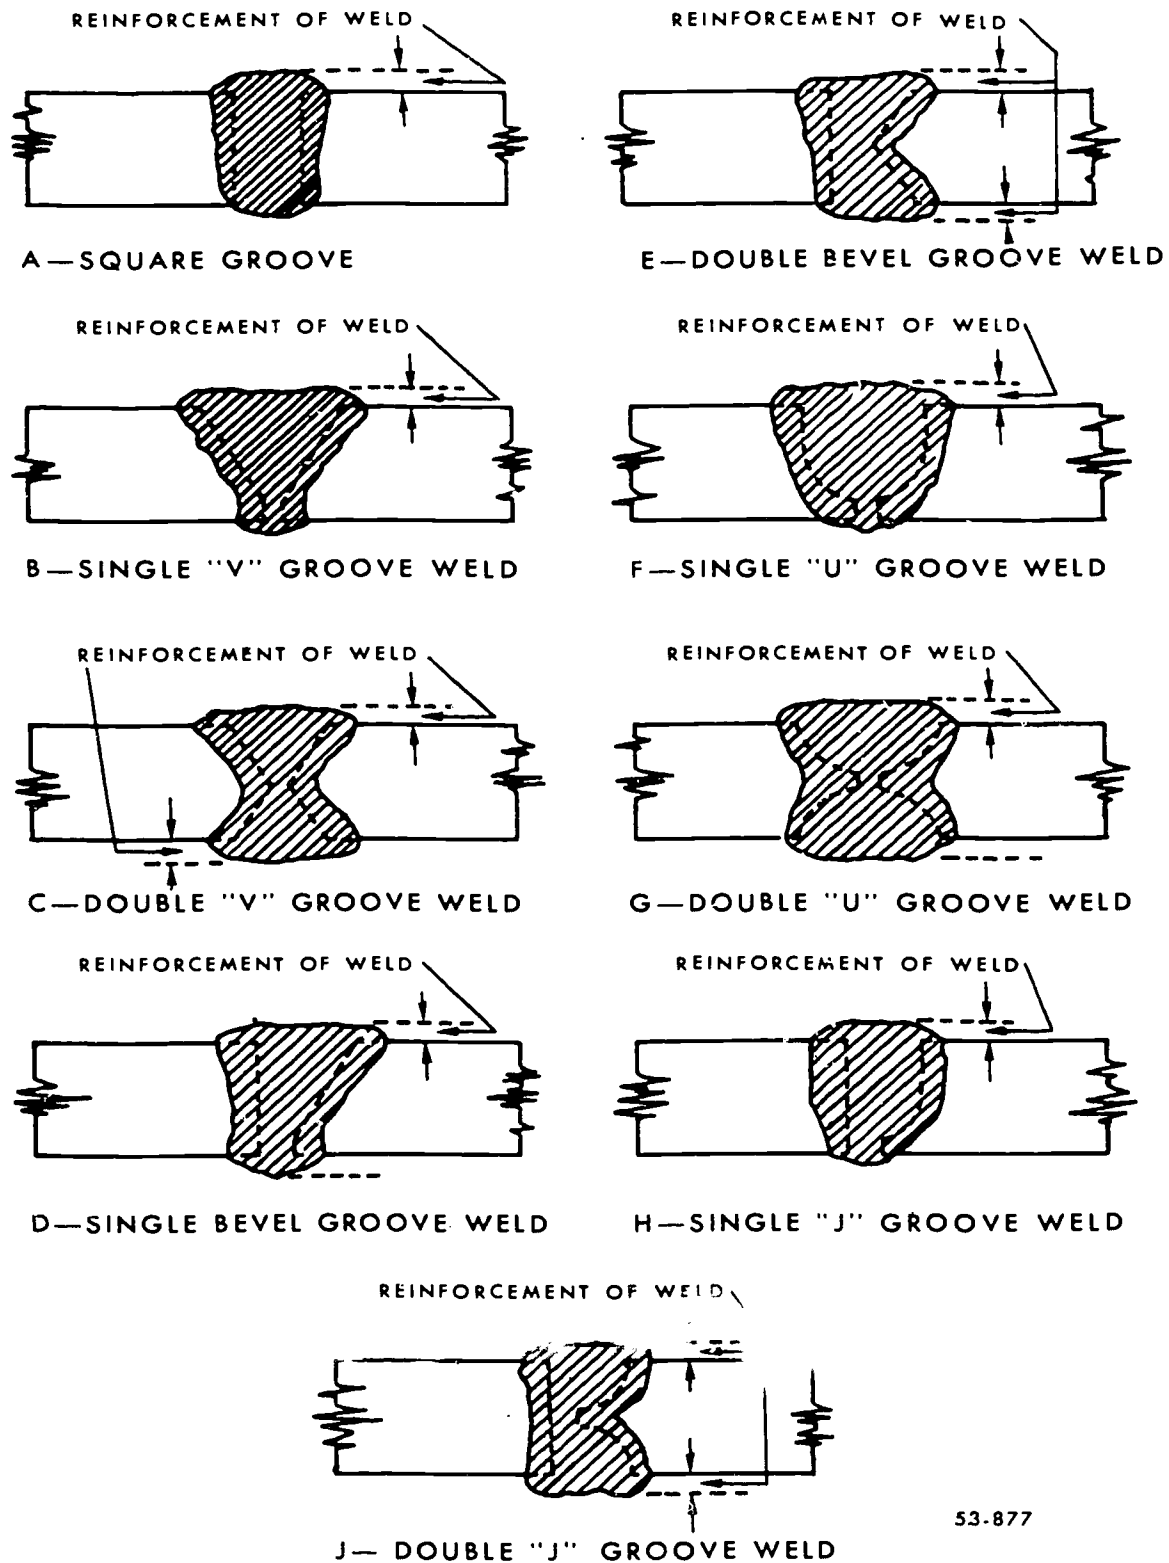

Figure 3-24. Butt joints in the flat position.
**Butt Joints.** A butt joint is used to join two plates having surfaces in approximately the same plane. Several methods of edge preparation for joints are used to make butt welds in the flat position; the most important are shown in figure 3-24.
Plates  $1/8$  to  $3/8$  inch thick can be welded with no special edge preparation by making a bead weld on both sides of the joint if possible. Use a single bevel to weld metals that are  $1/8$  to  $3/8$  inch thick when welding on both sides is not possible. Bevel the edge to an angle of  $30^\circ$  to  $35^\circ$ . Use the single bevel (shown in fig. 3-24) view D, when you cannot bevel one of the plates because of its shape location, or fixed position. In this case, the weld is made from one side. The single "V" (shown in view B of fig. 3-24) differs from the single bevel in that you bevel the edges of both plates. The included angle of the bevel should be  $60^\circ$  to  $75^\circ$ . Use it on the same thickness of metal that you use for the single bevel. Make the weld from one side only. The number of passes required will depend upon the metal thickness.
Use the double bevel (shown in view E of fig. 3-24) on metals over  $3/8$  inch thick. Bevel the edge on both sides to an angle of  $30^\circ$  to  $35^\circ$ . Use the double bevel when you cannot bevel the joining plate in the same manner and for work you can weld on both sides. The double "V" (shown in fig. 3-24 view C) differs from the single bevel in that you bevel the edges of both plates. The included angle of the double "V" bevel should be from  $60^\circ$  to  $75^\circ$ . Use it on the same thickness of metal that you use for the double bevel. The double "V" requires approximately one-half as much electrode as the single "V" butt joint. In general, butt joints prepared from both sides permit easier welding, produce less distortion, and insure better weld metal qualities in heavy sections than the joints prepared from one side only.
You can use the single "U" (shown in view F of fig. 3-24) in place of the single or double "V" for joining 1/2 to 3/4-plates. It is more satisfactory and requires less filler metal than the single "V" for welding heavy sections or welding in deep grooves. Make the weld from one side, except for a single bead that you make last on the opposite side of the "U," if possible. Use the double "U" (shown in view G of fig. 3-24) for joining heavy plates, usually 3/4 inch and thicker. It requires less weld metal than the single "U." Weld from both sides.
The single "J" joint (shown in view H of fig. 3-24) is used to weld plates 1 inch thick or heavier from one side. The double "J" type (pictured in view J of fig. 3-24) is used to weld very heavy plates from both sides. Care is necessary to prevent base metal from being lost of the weld preparation promoted by root openings. Less filler metal is required in making the single "J" than the single "V," and the same is true of double "J" and "V" joints.